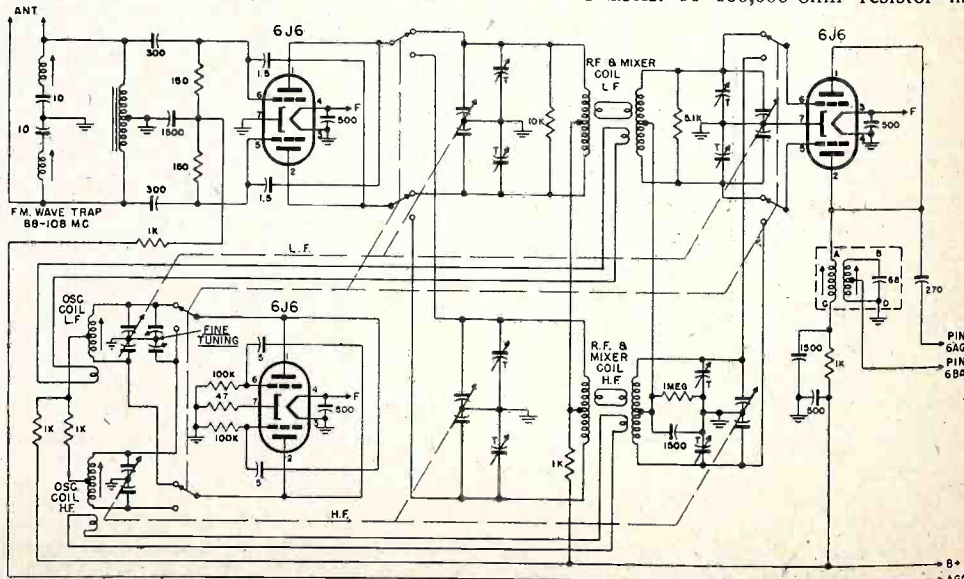

Fig. 3. Schematic for the r-f unit Part No. 13900.
Two types of r-f sub-assemblies have been incorporated: (1) that switching coils in selection of channels, and (2) that using continuous variable capacitor tuning. The latter provides 12 channel reception (channel 1 is deleted since this channel is no longer assigned to telecasting service by order of the FCC) and channel identification is by a brass pin extending from the selector switch. The schematic for the 12-channel r-f unit, part number 13900, is shown in Fig. 3.